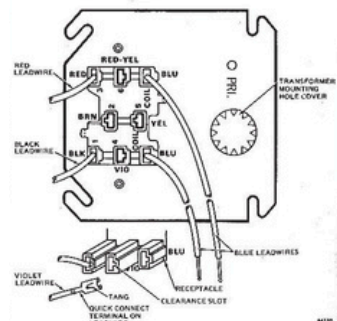

Fig. 7. Bottom of relay receptacle showing leadwire hookup.
2. Align the tang on the leadwire quick-connect terminal with the small clearance slot in the terminal opening (see Fig. 7).